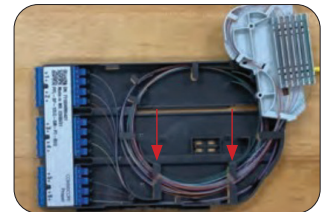

Figure 16
16. Line up the pegs on the cassette base with the mounting holes on the spool to finish routing. **(Figure 16)**